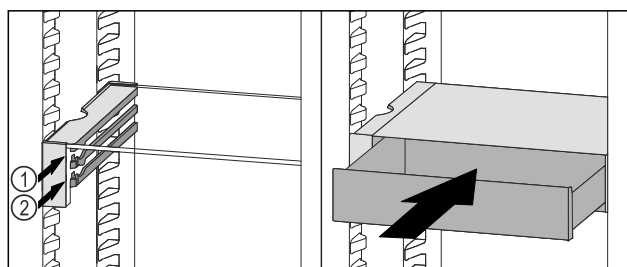

Fig. 82
- Place the VarioSafe drawer behind the stoppers on desired rib Fig. 82 (1) or Fig. 82 (2).